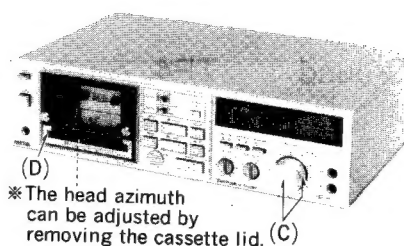
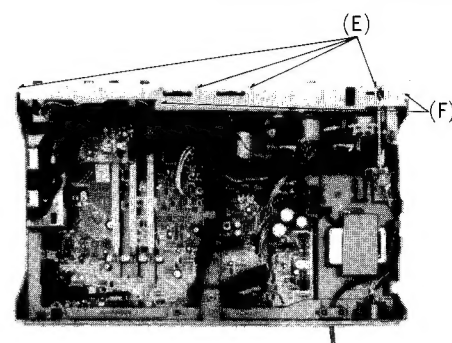
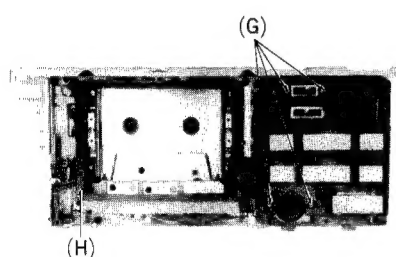
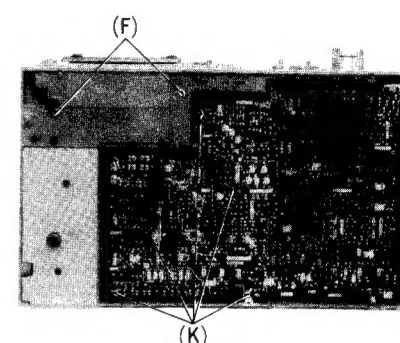

Fig. 2
Fig. 3
Fig. 4
Fig. 6
<p>A Head azimuth adjustment</p> <p>Condition:</p> <ul style="list-style-type: none"> • Playback mode <p>Equipment:</p> <ul style="list-style-type: none"> • VTVM • Oscilloscope • Test tape (azimuth) ... QZZCFM • Tape path viewer ... QZZCRD 	<p>Record/playback head adjustment</p> <ol style="list-style-type: none"> 1. Test equipment connection is shown in fig. 2. 2. Playback azimuth tape (QZZCFM 8 kHz). 3. Adjust record/playback head angle adjustment screw (B) in fig. 3 so that output level at LINE OUT becomes maximum. 4. Measure both channels, and adjust levels for equal output. 5. After adjustment lock head adjustment screw with lacquer.  <p>Fig. 2</p> <p>Erase head adjustment</p> <ol style="list-style-type: none"> 1. Test equipment connection is the same above but use the tape path viewer (QZZCRD) instead of test tape (QZZCFM). 2. Playback this tape. 3. Adjust screw (C) shown in fig. 4 so that the tape may not get curled or malformed by tape guide of the erase head. 4. After adjustment, lock head adjust screw with lacquer.  <p>Fig. 3 Fig. 4</p>
<p>C Playback frequency response</p> <p>Condition:</p> <ul style="list-style-type: none"> • Tape selector ... Normal position • Playback mode <p>Equipment:</p> <ul style="list-style-type: none"> • VTVM • Oscilloscope • Test tape ... QZZCFM 	<ol style="list-style-type: none"> 1. Test equipment connection is shown in fig. 2. 2. Place UNIT into playback mode. 3. Playback the frequency response test tape (QZZCFM). 4. Measure output level at 12.5 kHz, 8 kHz, 4 kHz, 1 kHz, 250 Hz, 125 Hz and 63 Hz, and compare each output level with the standard frequency 315 Hz, at LINE OUT. 5. Make measurement for both channels. 6. Make sure that the measured value is within the range specified in the frequency response chart. (shown in fig. 6).  <p>Fig. 6</p>
<p>㊦ Playback gain</p> <p>Condition:</p> <ul style="list-style-type: none"> * Tape selector ... Normal position * Playback mode <p>Equipment:</p> <ul style="list-style-type: none"> * VTVM * Oscilloscope * Test tape ... QZZCFM 	<ol style="list-style-type: none"> 1. Test equipment connection is shown in fig. 2. 2. Playback standard recording level portion on test tape (QZZCFM 315Hz, 0 dB), and using VTVM measure the output level at LINE OUT jack. 3. Make measurement for both channels. <div style="border: 1px solid black; padding: 5px; text-align: center;"> Standard value: $0.7V \pm 1.5dB$ </div> <p>Adjustment</p> <ol style="list-style-type: none"> 1. If measured value is not within standard, adjust VR3 (L-CH), VR4 (R-CH) (shown in fig. 1). 2. After adjustment, check "Playback frequency response" again.